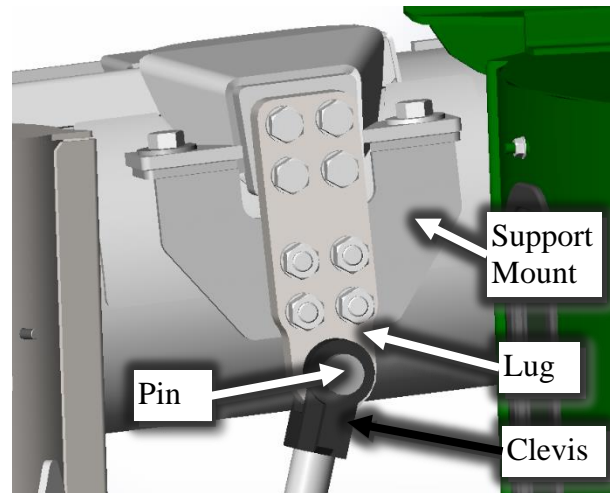

Figure 58 – Upper Discharge Auger Configuration.
NOTE: The 8215 is shipped from the factory in the upper configuration (see Figure 58).
If Discharge Auger needs to be changed to the lower configuration do the following steps (see Figures 58 & 59):
5. Bolt parts back together as shown in Figure 58.